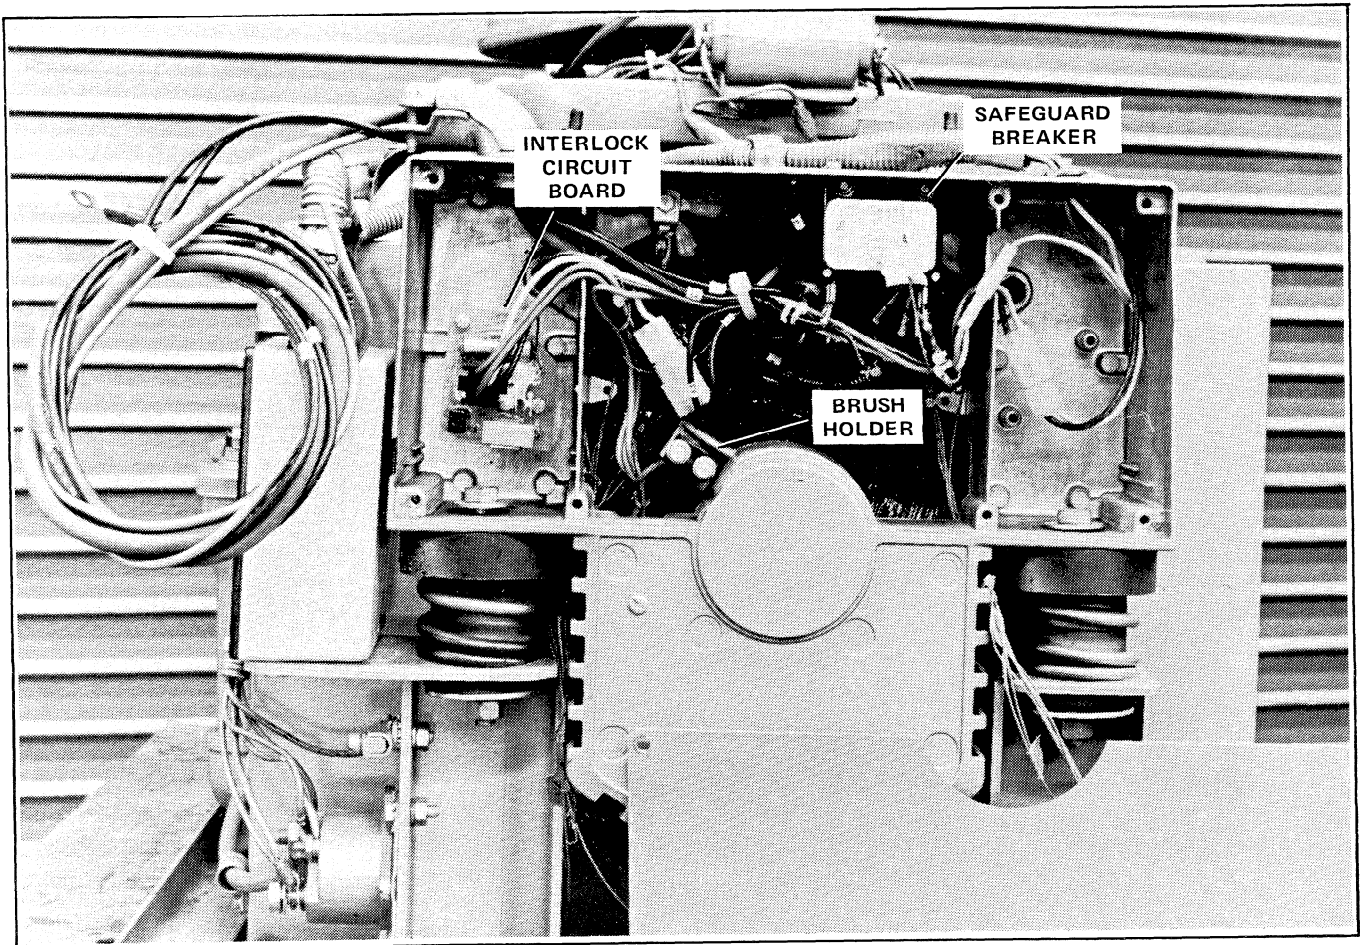

Figure 6-34. End Panels Removed (4.5KW Shown)
11. Install the safeguard breaker and end panels (Figure 6-34).